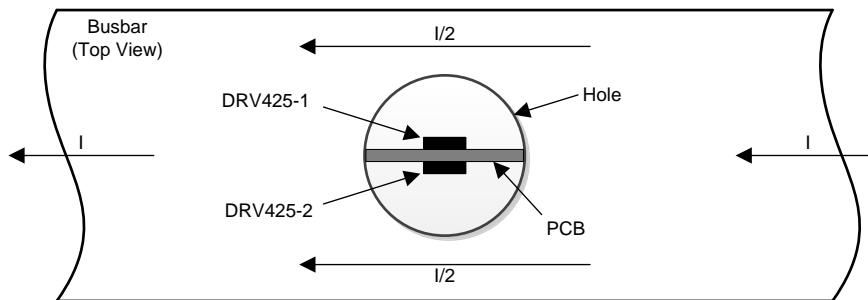
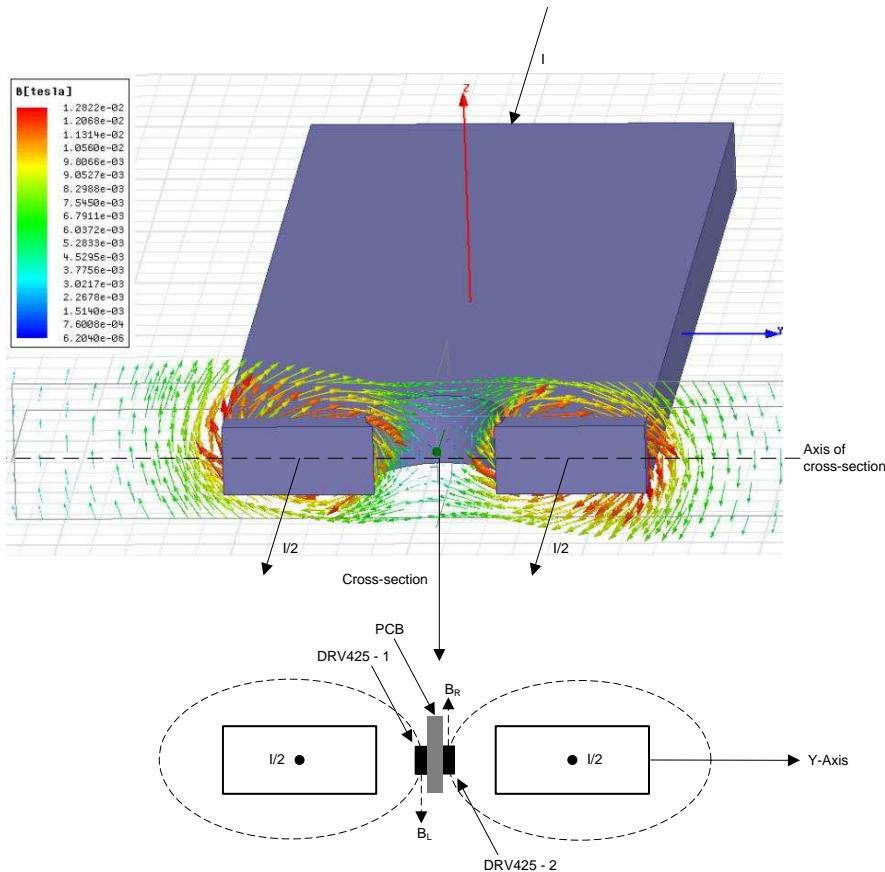

图 71. DRV425-Based Busbar Current Sensing
图 72. Magnetic Field Distribution Inside a Busbar Hole
图 71 shows an alternative approach with two DRV425 devices. If a hole is drilled in the middle of the busbar, the current is split in two equal parts that generate magnetic field gradients with opposite directions inside the hole. These magnetic fields are termed  $B_R$  and  $B_L$  in 图 72. The opposite fields cancel each other out in the middle of the hole. The high sensitivity and linearity of two DRV425 devices positioned at the same distance from the middle of the hole allow the small opposite fields to be sensed and the current measured with high-accuracy levels. The differential measurement rejects outside fields that generate a common-mode error that is subtracted at the output.
2. Apply current through the busbar and move the PCB along the y-axis in the busbar hole, as shown in 图 72. The PCB is in the center of the hole if  $V_{\text{CM}} = V_{\text{OFFSET}}$ .